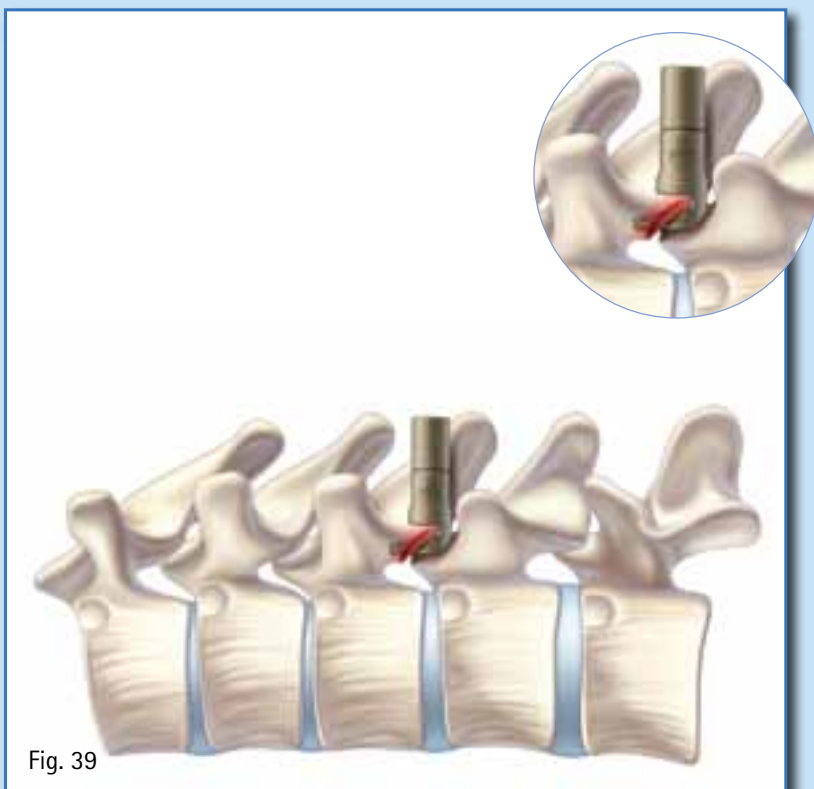

Fig. 39
- Show the pedicle hook fully seated. (Fig. 39)